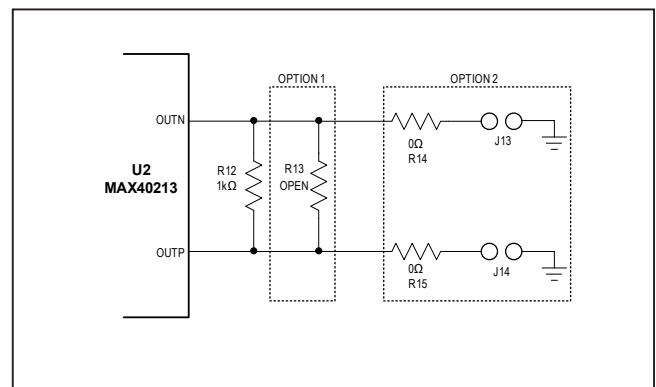

Figure 2. Evaluation Circuit 2—High Impedance Input on Equipment
- 2) Evaluation Circuit 2 (see Figure 2): Before beginning, use resistor R13 pads to install the differential probes.
The MAX40213 outputs are connected to a 1k Ω load differentially. The default position is option 1 and uses resistor R13 pad for probing purposes. Option 2 allows the user to install 0 Ω at resistor R14 and R15. Use FET probes to monitor at the 2-pin headers J13 and J14 (see Figure 2).